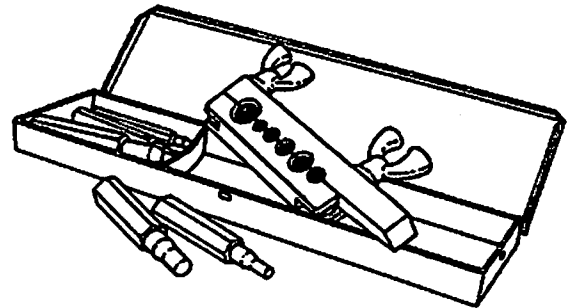

FIGURE 2
- You should have a swaging tool set (fig. 2) with drive tubes to fit 3/16, 1/4, 5/16, 3/8 and 1/2-inch tubing. You should never use multi-size swaging tools. You should never use a flaring tool as your swaging tool can be used to open or round out a tubing end.